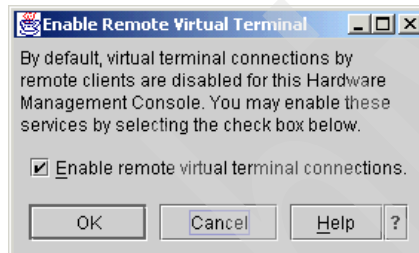

Figure 4-18 Enable Remote Virtual Terminal
2. Select the Enable/Disable Remote Virtual Terminal task in the Contents area to open the Enable Remote Virtual Terminal window in Figure 4-18.